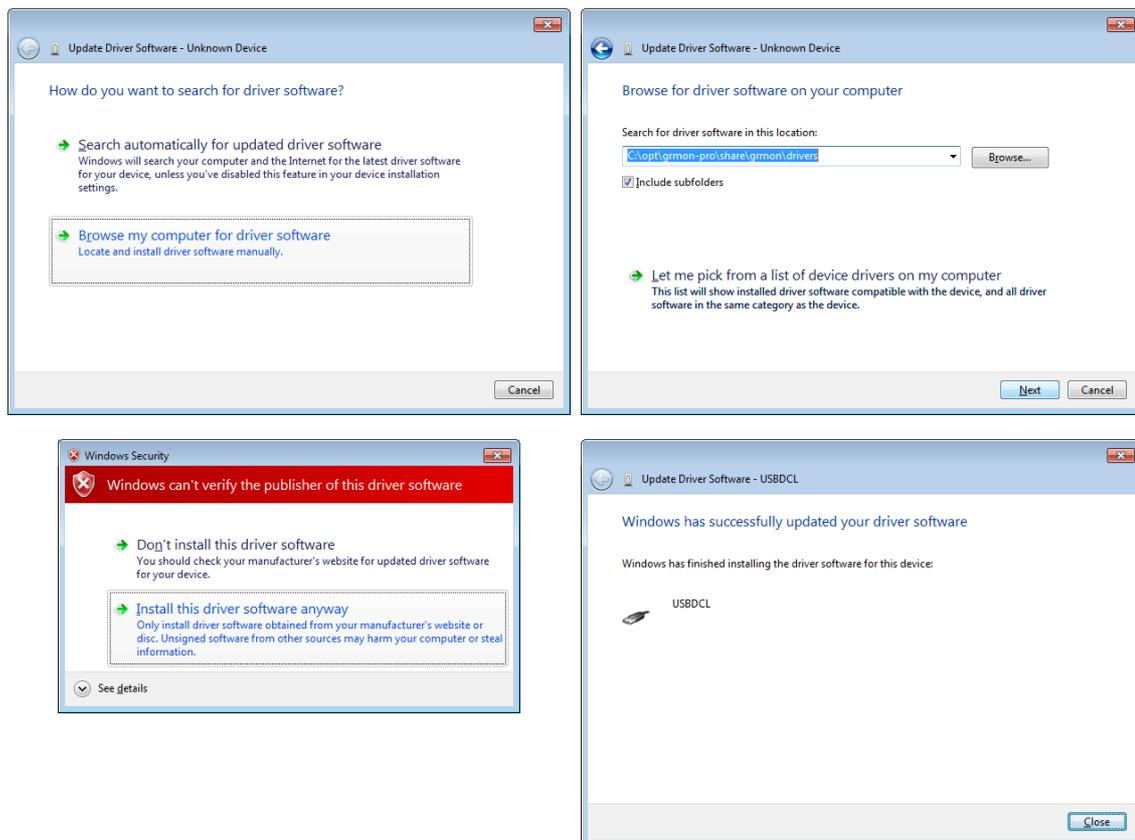

Figure 4.5.
3. In the dialog that open, the first image in Figure 4.5, choose **Browse my computer for driver software**.
5. A warning dialog might pop-up, like the third image in Figure 4.5. Press **Install this driver software anyway** if it shows up.